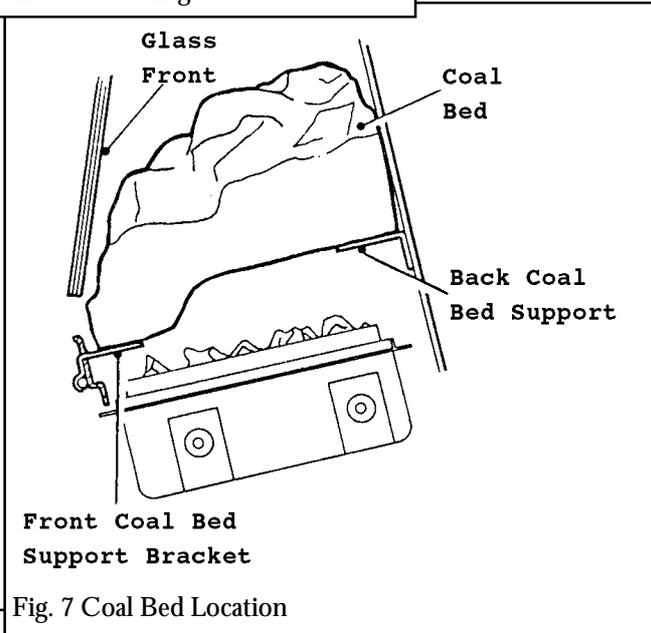

Fig. 7 Coal Bed Location
9.1 Place the coal bed in position. Make sure that the coal bed rests over the locating bracket at the rear of the fire box and is pushed back so that it touches the back of the fire box. Lower the front so that the outer coals rest on top of the two front support brackets - see fig. 7.